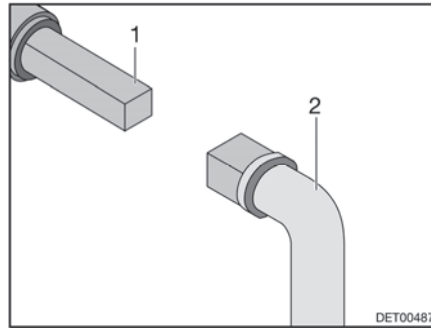

Fig. 116 Operation of the waste water tap
- Place key (Fig. 116,2) onto the square bolt (Fig. 116,1).